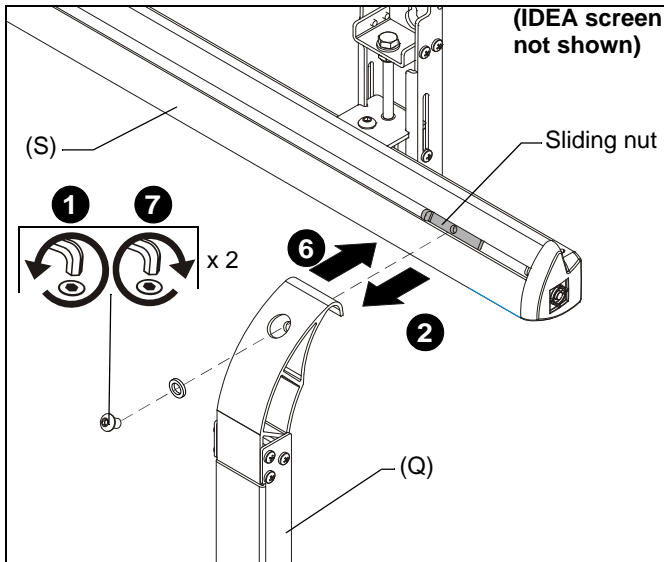

Figure 8
1. Loosen one button head cap screw with spacer at top of each upright assembly (Q). (See Figure 8)
2. Unhook screen from wall assembly (S). (See Figure 8)
6. Hook screen with attached uprights onto the wall assembly (S). (See Figure 8)
7. Tighten button head cap screw with spacer (loosened in Step 1) at top of each upright assembly to fasten upright assemblies (Q) into place. (See Figure 8)